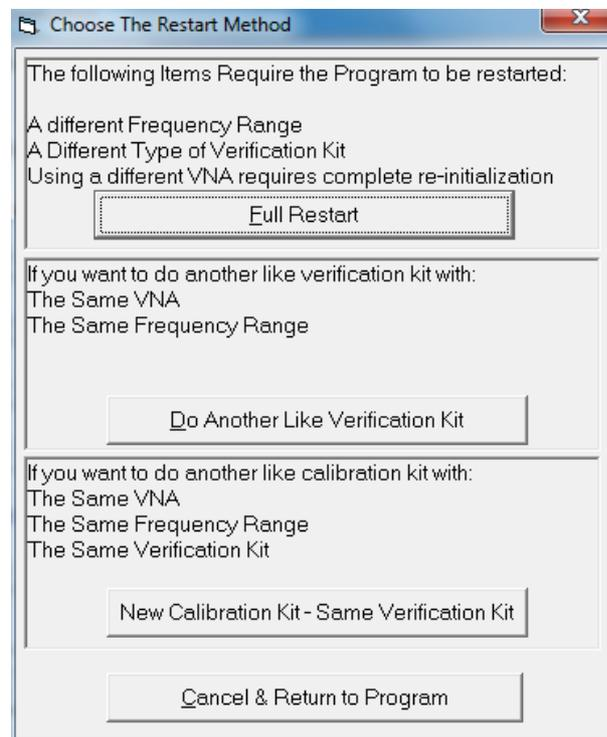

Figure 4-56. Choose The Restart Method Dialog
3. The Choose The Restart Method dialog box appears as shown below in Figure 4-56.